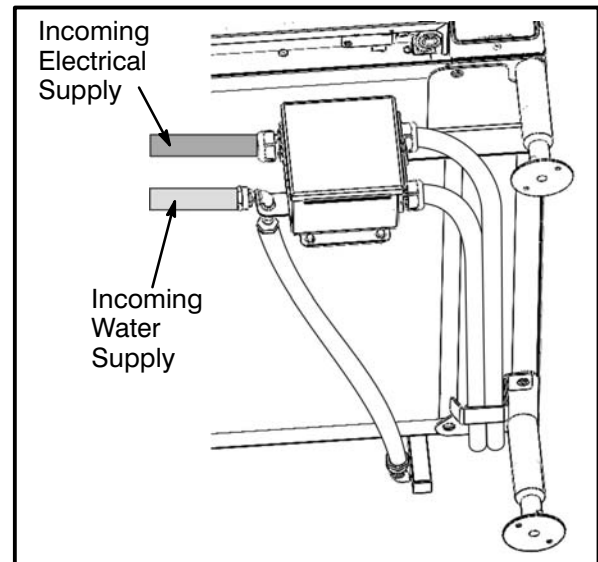

Figure 10
1. Connect incoming power from the ship to the electrical connection on the utility box underneath the oven. See Figure 10.
2. Connect the cold water supply from the ship to the incoming water connection on the utility box underneath the oven. A 10' water hose is supplied for your convenience. See Figure 10.